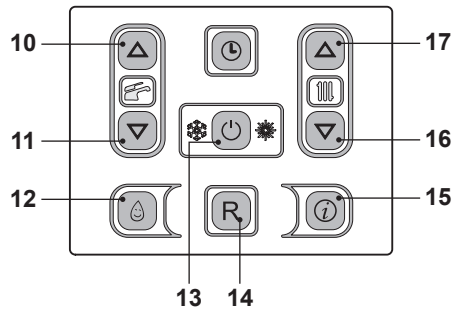
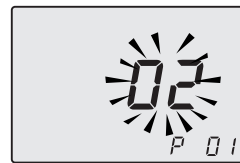

Fig. 8.22
Fig. 8.23
- Enter the "programming mode" by sequentially pressing keys 13 - 16 - 17 (Fig. 8.22) for 10 seconds at the same time until the letters **P01** on the LCD display, indicating that "parameter 01" (Fig. 8.23) has been activated.
- By pressing key 13 (Fig. 8.22) confirmation of the inserted value is obtained.
- Press keys 16 or 17 (Fig. 8.22) to exit without changing the value.